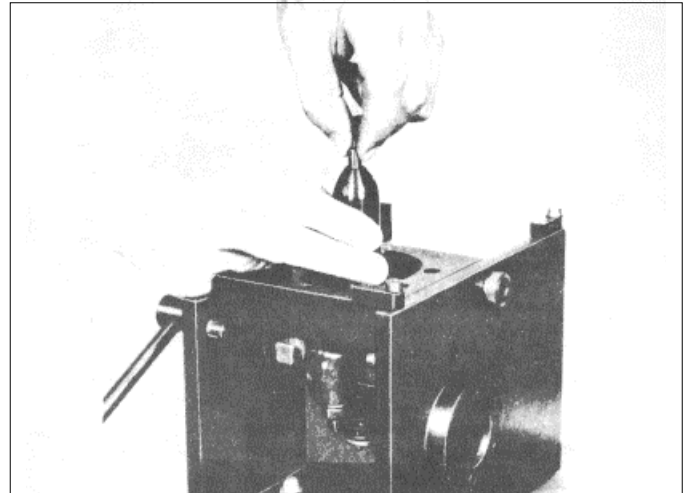

Fig. 39 Tightening Injector Nut by Hand
- (7) Lubricate the threads in the injector nut and carefully thread the nut on the injector body by hand. Rotate the spray tip between your thumb and first finger while threading the nut on the injector body (Fig. 39). Tighten the nut as tight as possible by hand. At this point there should be sufficient force on the spray tip to make it impossible to turn with your fingers.